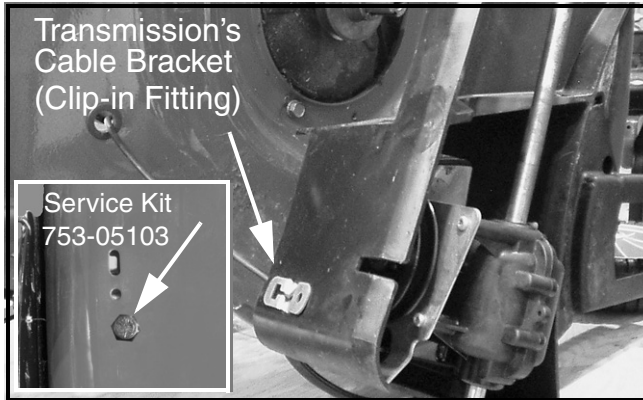

FIGURE 15
NOTE: Service kit 753-05103 installed a hex head bolt and nut securing the transmission cable bracket and main baffle to the rear of the deck. See Figure 15 Inset below. If the service kit had previously been installed, remove the bolt and nut using a 7/16" socket and ratchet and a 7/16" box wrench.
36. Carefully pull the transmission and main baffle out from the deck and position it so that there is access to the transmission cable bracket (clip-in fitting). See Figure 15.
49. Insert the main baffle into the deck shell. If so equipped, reinstall the 1/4"-20 bolt and nut securing the transmission's cable bracket (clip-in fitting) and main baffle to the rear of the deck. Refer to Figure 15.